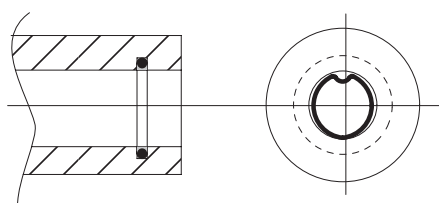

Fig. 9.08
- 9.3.4) Put the O-ring back in its seat first and then the seal ring pos.29, making it adhere perfectly to the O-ring using a blunt tool. To facilitate the introduction of the ring, follow the indications shown in fig.9.08.
To make it easier to insert the ring, follow the instructions in Fig.9.08.